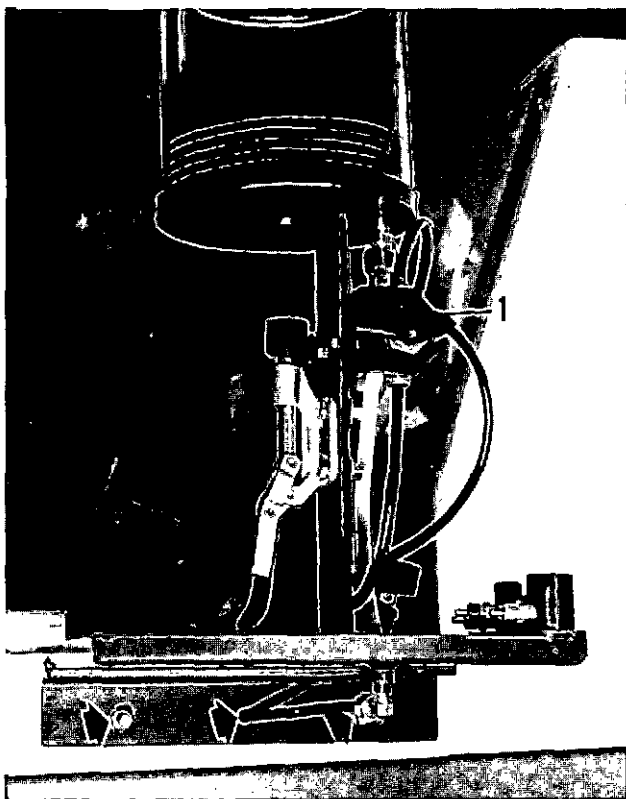

Fig. 4-18. Spray Tester mounted to 3375317 Injector Test Stand
The 3376350 Injector Cup Spray Tester design requires a pressure source of clean injector test oil. The tester can be attached easily to the 3375317 Injector Test Stand, and is recommended, to provide the required source of clean injector test oil, Fig. 4-18.
1. Drill three holes to match the holes for the angle mounting bracket attached to the base of the tester. The two outer holes are required to mount the tester. The center hole is required for the drain hose, which allows the tester to drain into the tray of the Injector Test Stand. See arrows, Fig. 4-18.
5. Move the on-off ball valve to "off" position, Fig. 4-18.